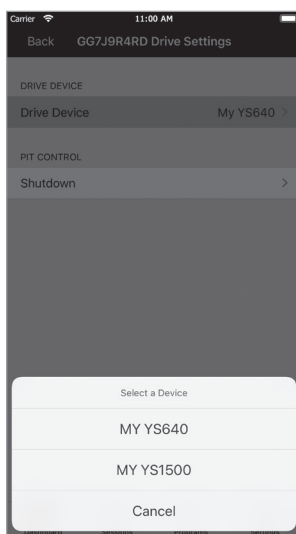
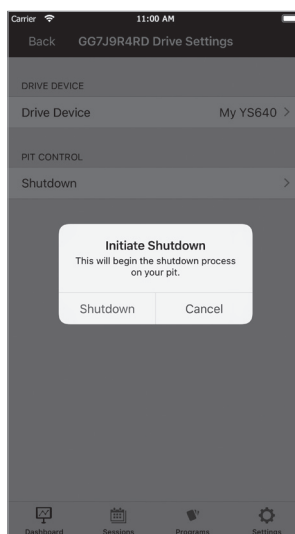

FIG 33
FIG 34
- Tapping the small wrench icon in the upper right of the gray bar will take you to a section that allows you to choose between multiple cookers (if you have more than one paired to your mobile device) (**FIG 33**) and also allows you to shut down your cooker (**FIG 34**).